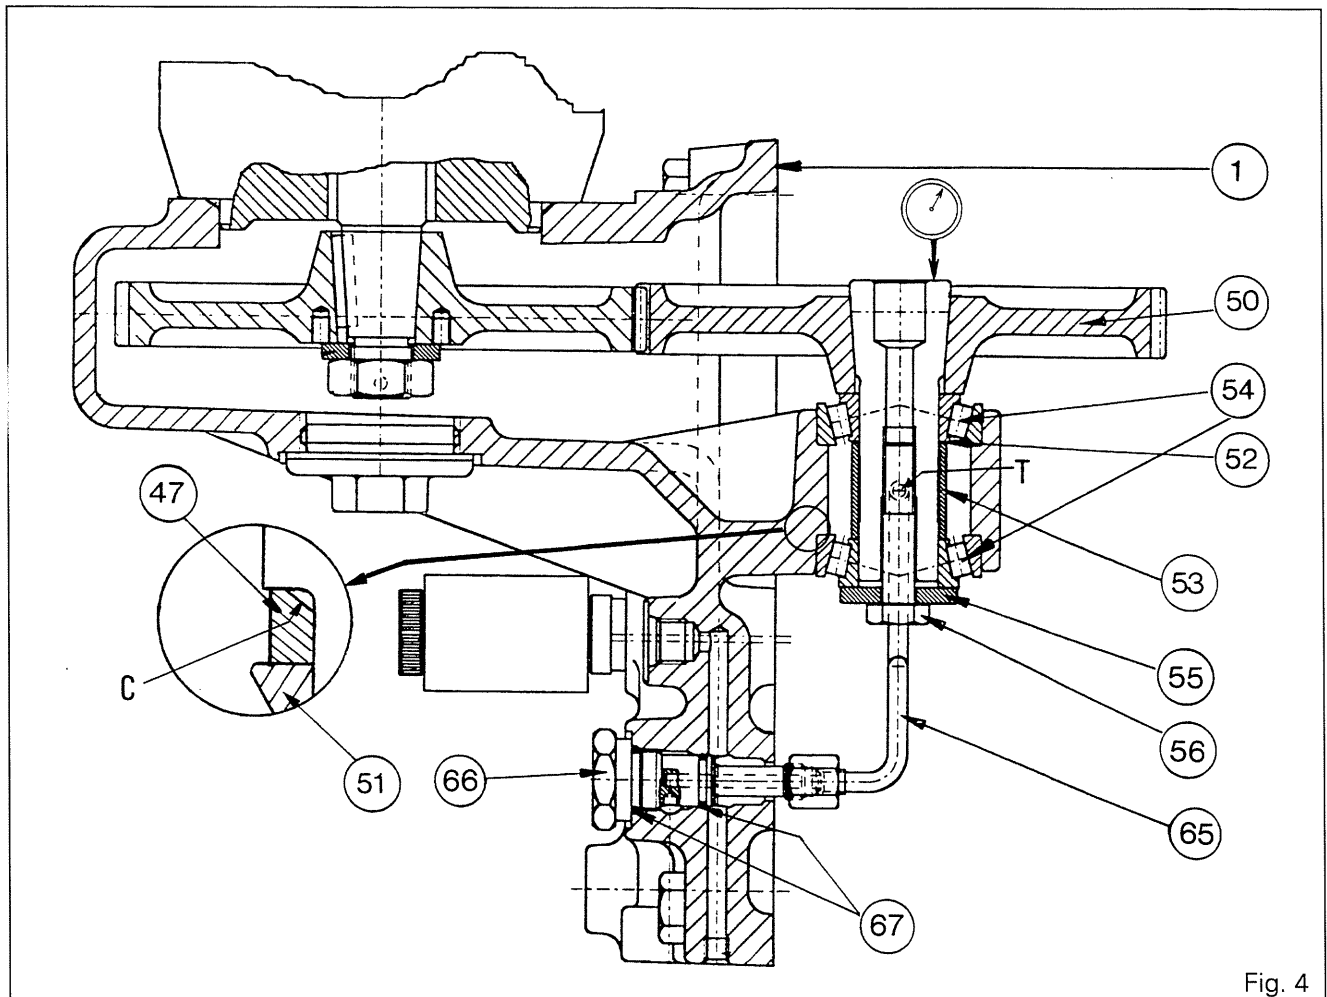

Fig. 4
**Note:** The bearing (51) to (54) on the layshaft (48) are lubricated by means of a tube and a restrictor plug (66) screwed onto the cover and in communication with the low-pressure circuit (17 bars).
13. Place the cover (1) in a vice with the inner face upwards.
Position the spacers (47) in the bores in the cover with the chamfers "C" facing the casting radii (see Fig. 4).
### Shimming the idler gear shaft (Fig. 4)